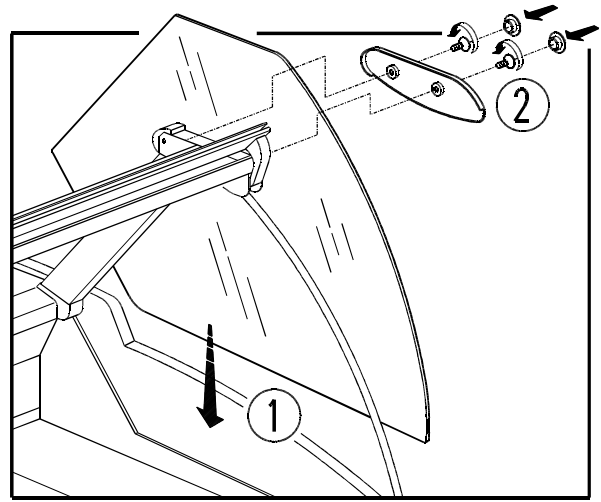

FIG. 9
- Position the glass end walls in their housing, fasten them using the end covers on the outside part of the superstructure (FIG. 9 page 3).